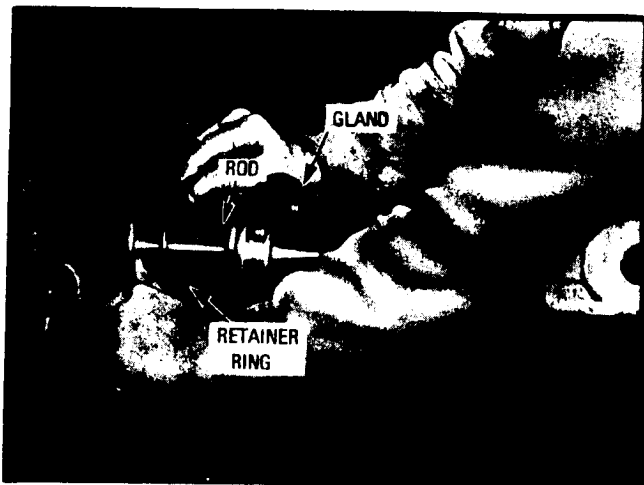

Fig. 3- Removal of Retaining Ring
3. Slide the gland assembly down the rod to make visible the retaining ring securing the barrel. See Fig. 3.